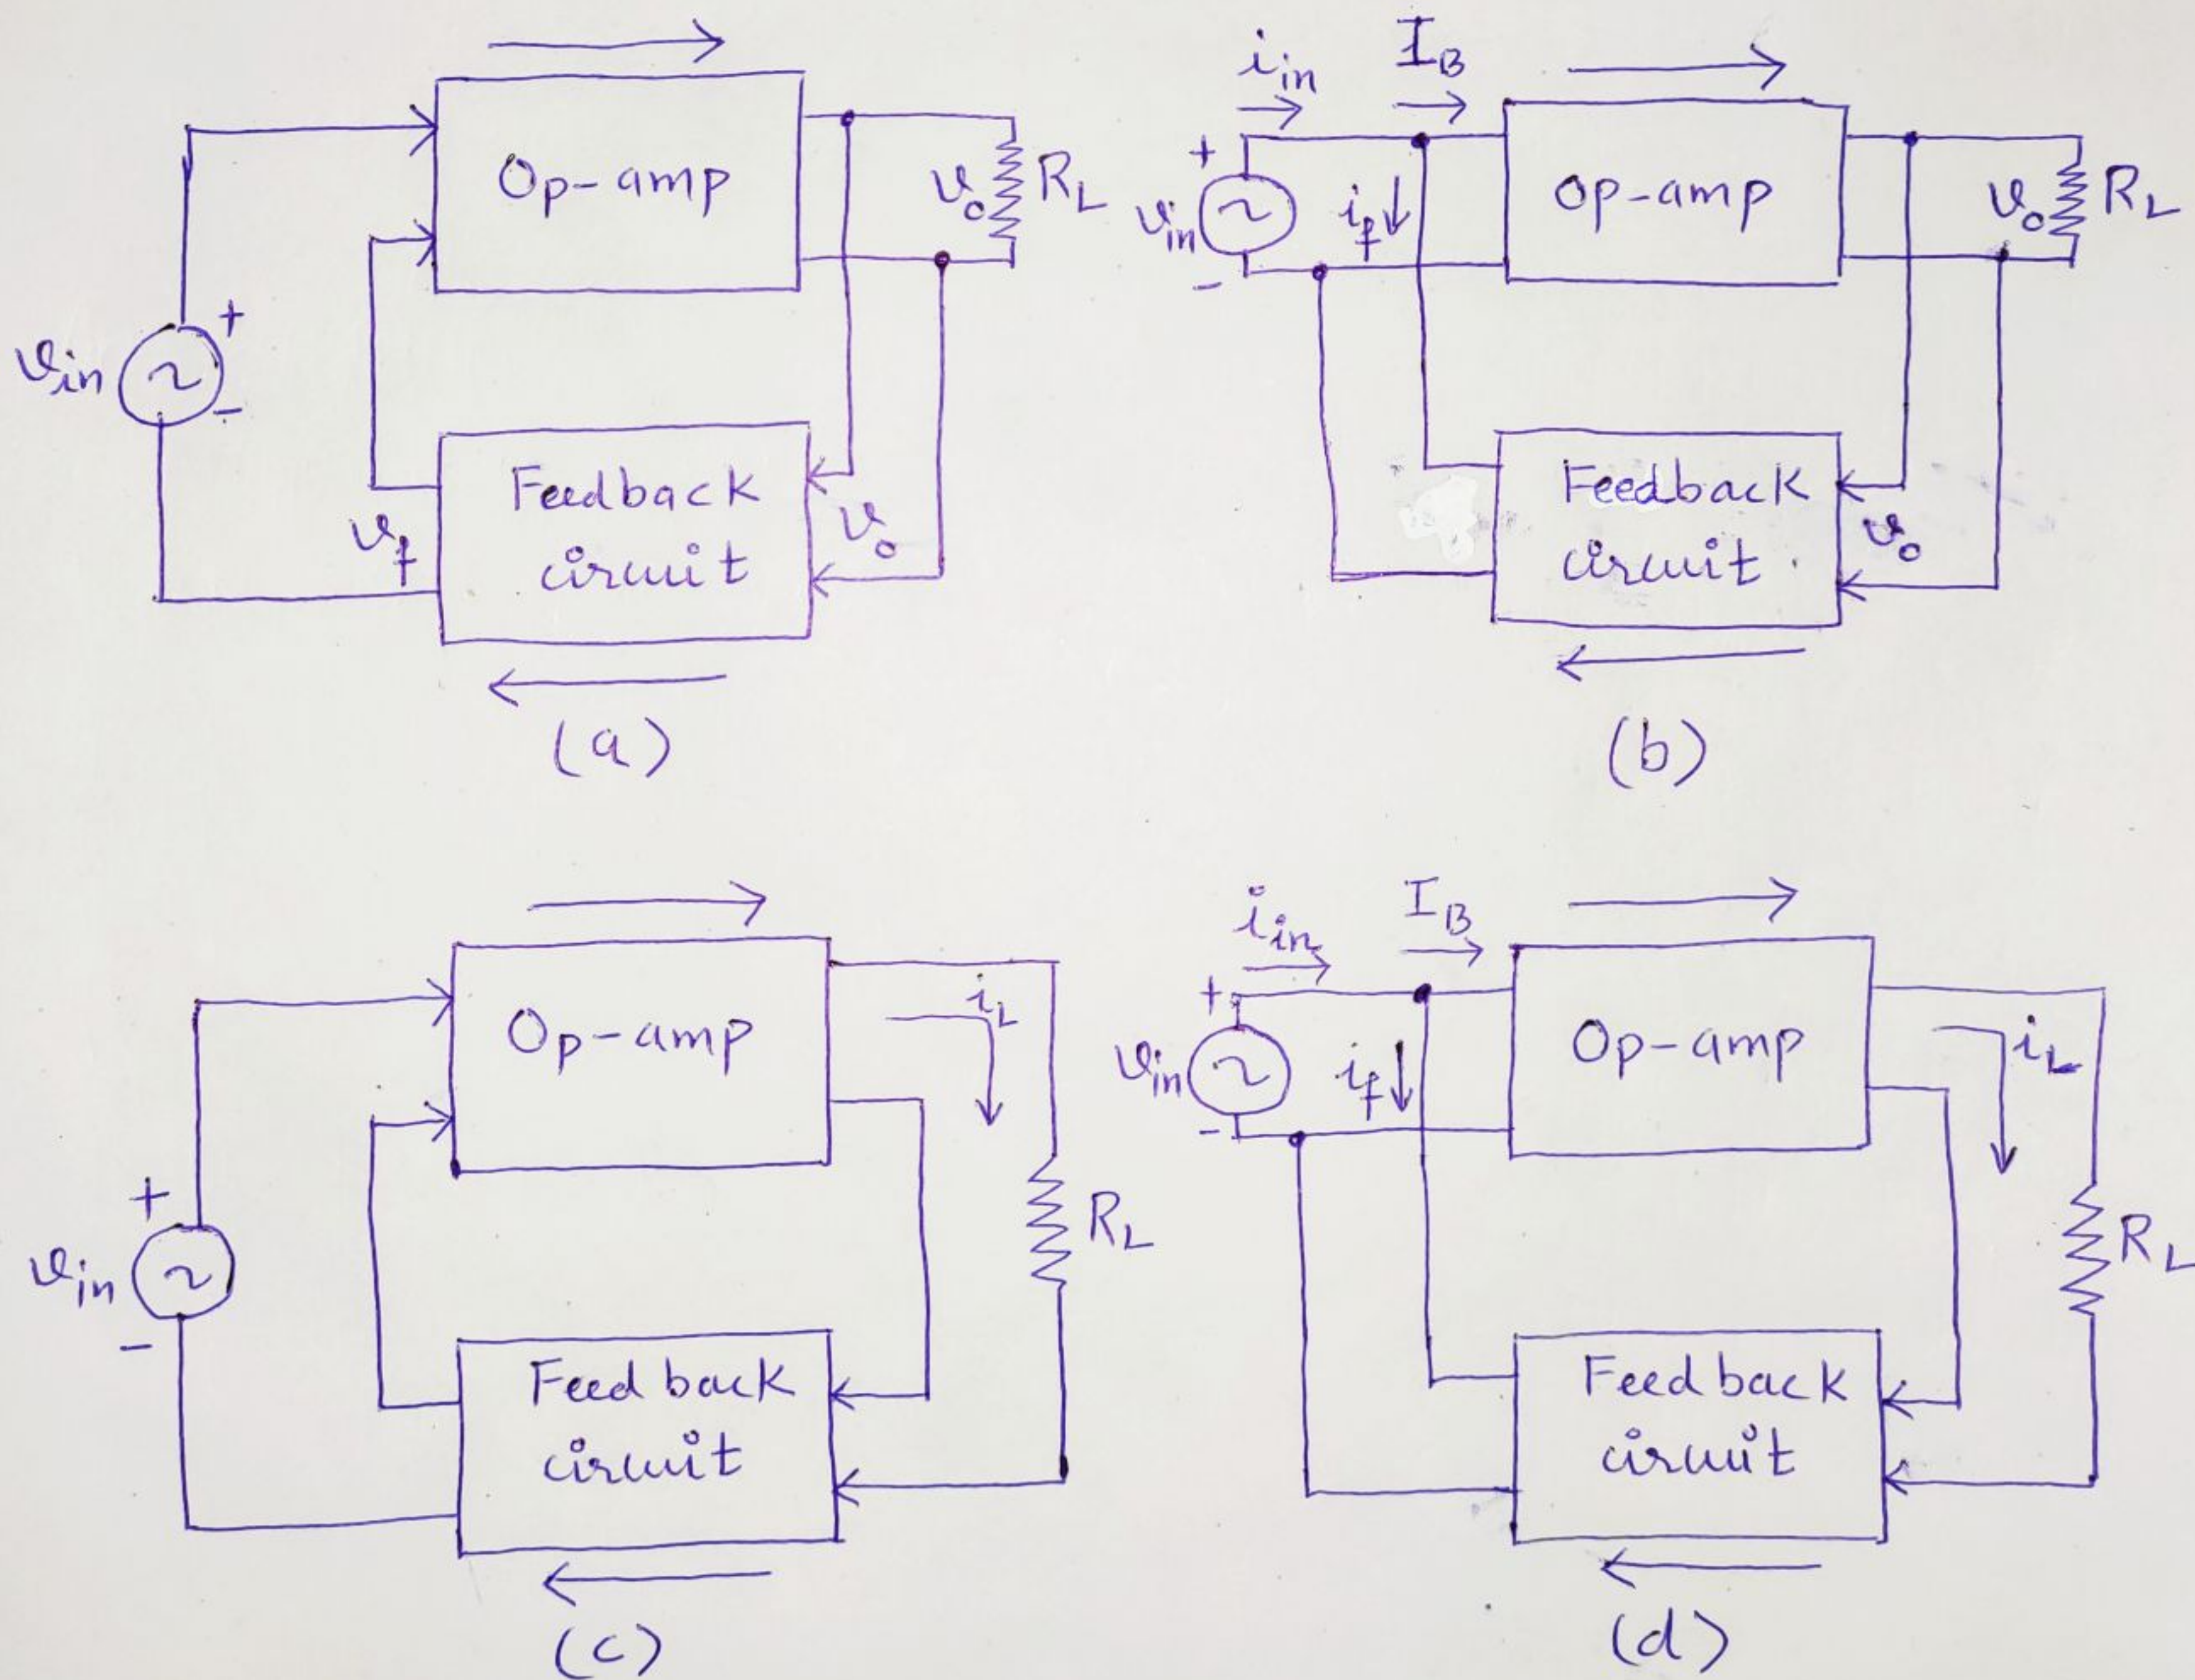

Figure 4. (a) Voltage-series (b) Voltage-shunt (c) Current-series (d) Current-shunt feedback configurations.
The four types of configurations are illustrated (7) in Figure 4. In Figure 4(a) and 4(b), the voltage across load resistor R_L is the input voltage to the feedback circuit. On the other hand, in the current series and current-shunt feedback circuits of Figure 4(c) and 4(d), the load current i_L flows into the feedback circuit.